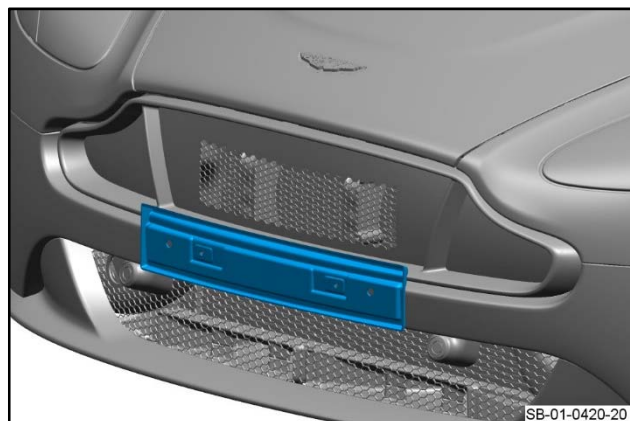

Figure 20
11. Put the license plate plinth into position (refer to Figure 20).